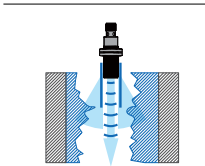

Figure 6 - Applying Ultrasonic Sensor
- If there are multiple reflections in the ultrasonic propagation area, or if there is a risk of mechanical damage in the ultrasonic propagation area (e.g. multiple reflections in the ultrasonic propagation area), it is recommended to mount the receiver inside the waveguide (Figure 6).
- Mount the receiver in a waveguide made of highly reflective material and of any length (Figure 6).